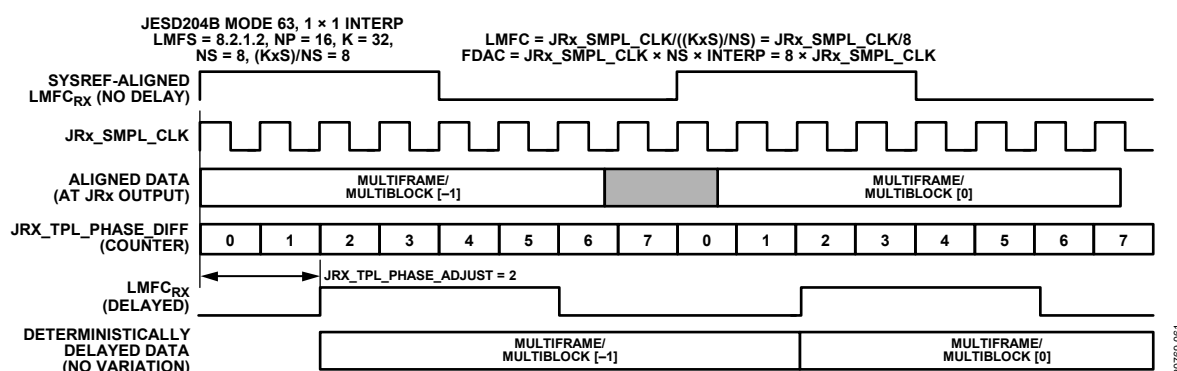
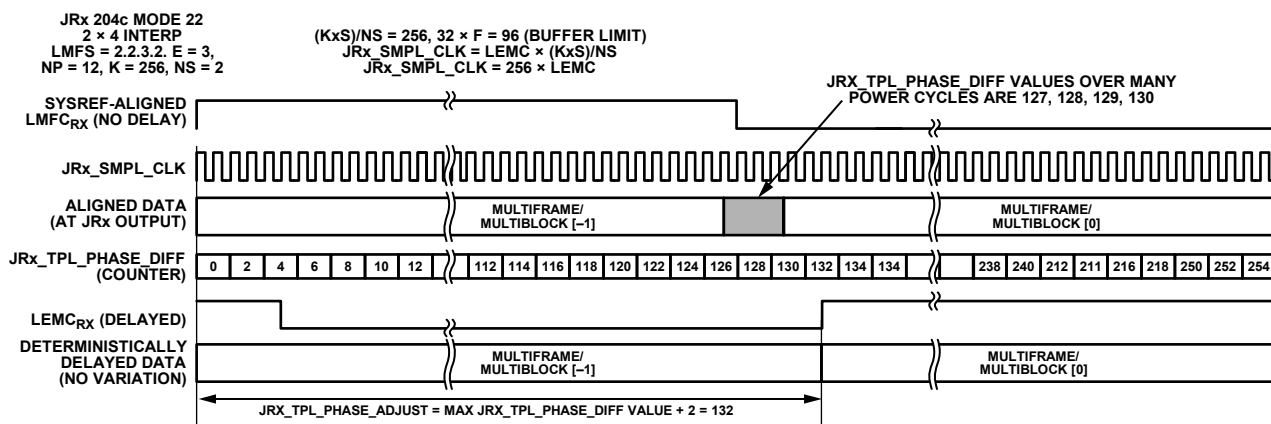

Figure 66. Example 2, Setting LMFC/LEMC Delay for Deterministic Latency (Derived from JRX_TPL_PHASE_DIFF)
Figure 67. Example 1, Setting LMFC/LEMC Delay for Deterministic Latency (Derived from JRX_TPL_PHASE_DIFF)
3. The latest possible arriving time is equal to the largest value recorded in Step 1. The count values range from 0 to $((K \times S)/NS) - 1$ (the number of JRX_SAMPLE_CLK cycles in the LMFC/LEMC. If the range of values recorded span the terminal count value of the JRX_SAMPLE_CLK counter, the latest possible arriving time value could be from 0 to 3 (see the example in Figure 67).
Figure 67 shows an example using JESD204B Mode 63 (1×1 interpolation). Step 1 through Step 3 in this example reveal that there are only two possible values recorded in Step 2, that is, 7 and 0. Accounting for the counter roll-over from 7 to 0, 0 is the latest arriving time (from Step 2). Therefore, a value of 2 is programmed into the JRX_TPL_PHASE_ADJUST register ($0 + 2$, as described in Step 3). The data read out of the read buffer is deterministically delayed and output on the delayed LMFC/LEMC boundary (read pointer).
Figure 66 shows an example using JESD204C Mode 22 (2×4 interpolation). In this example, the receive buffer depth is $32 \times F$ JRX_SAMPLE_CLK deep, which is 96. The LEMC contains
Certain combinations of these parameters are supported by the device. See Figure 67 and Figure 66 for a list of supported JESD204B/C modes.